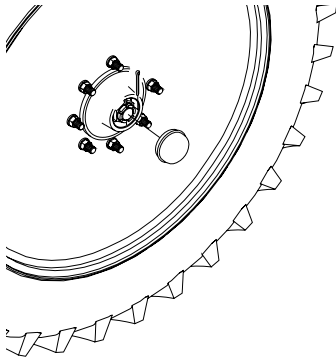

Fig 53
- 4 Remove the hub cap (A Fig 53) and cotter pin (B Fig 53). Turn the wheel and tighten castelated nut (C Fig 53) until slight resistance in wheel rotation is felt.